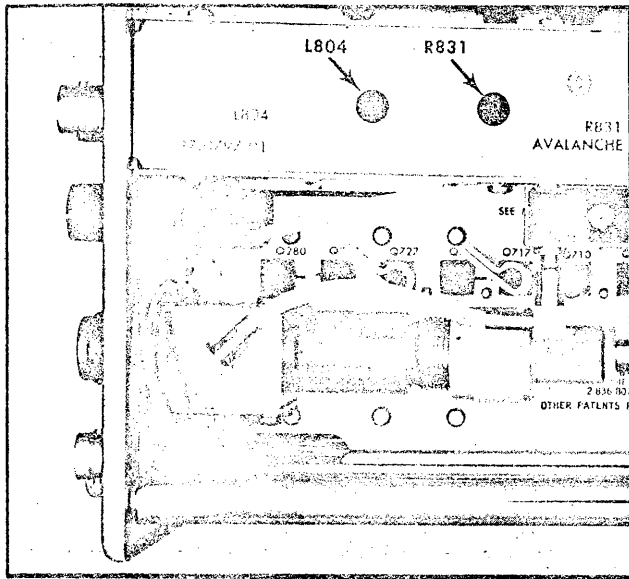
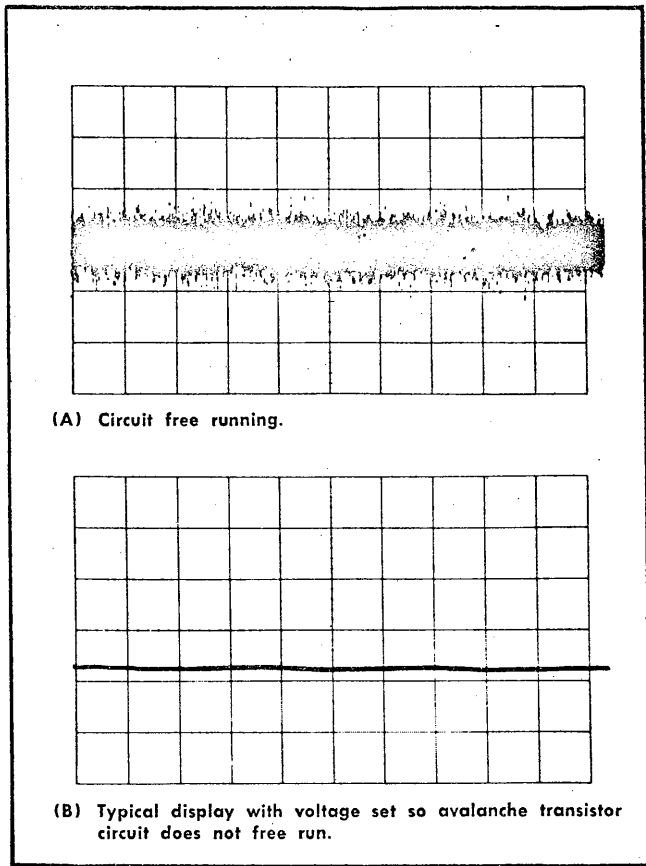

Fig. 6-17. Phase-lock circuit adjustments.
Fig. 6-18. Typical displays when adjusting the avalanche voltage.
b. With the INT 1 MHz REF FREQ switch in the OFF position, depress the LOCK CHECK button and adjust the Avalanche Volts adjustment R831 (Fig. 6-17) clockwise until avalanche occurs, then ccw from this point about  $\frac{1}{8}$  turn. Free running avalanche appears as a wide, noise trace or a definite increase in the noise level on the trace. See Fig. 6-18. Turn the adjustment  $\frac{1}{8}$  turn counterclockwise from the free running state.